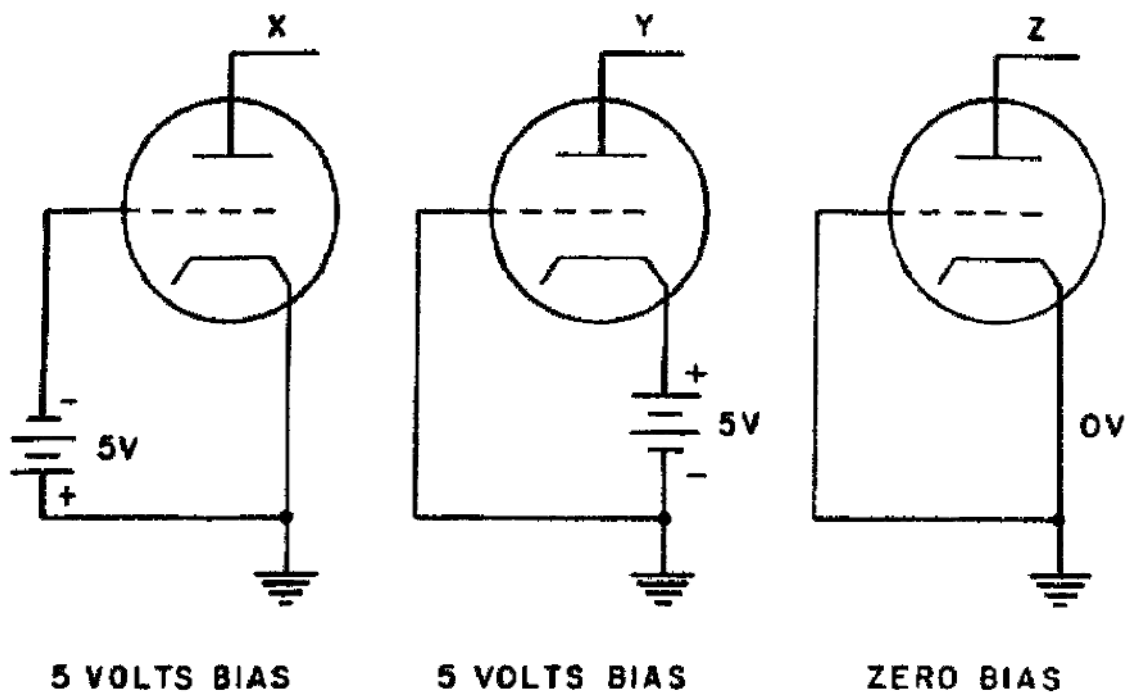

Figure 93. Using a battery to get fixed or zero bias.
8. The first is fixed bias. Figure 93 shows how the negative terminal of a battery could be connected to the control grid of a tube, and the cathode connected to ground to provide bias. If you say that the bias is 5 volts, you mean that the grid is 5 volts “negative” with respect to the cathode. Two methods of obtaining a bias of 5 volts are shown in figure 93. In diagram X the battery is connected with its negative terminal to the grid, while its positive terminal and the cathode are grounded. Diagram Y shows the positive terminal of the battery connected to the cathode, while its negative terminal and the grid are grounded. In either case, the grid is 5 volts negative with respect to the cathode. If the grid and the cathode are at the same potential, there is no difference in voltage and the tube is operating at zero bias (diagram Z).